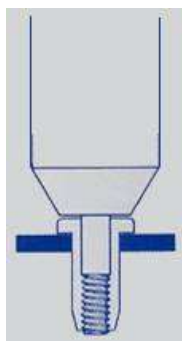

Fig.2
6. Smoothly screw in until the riveting tool reaches the end (Fig. 2).